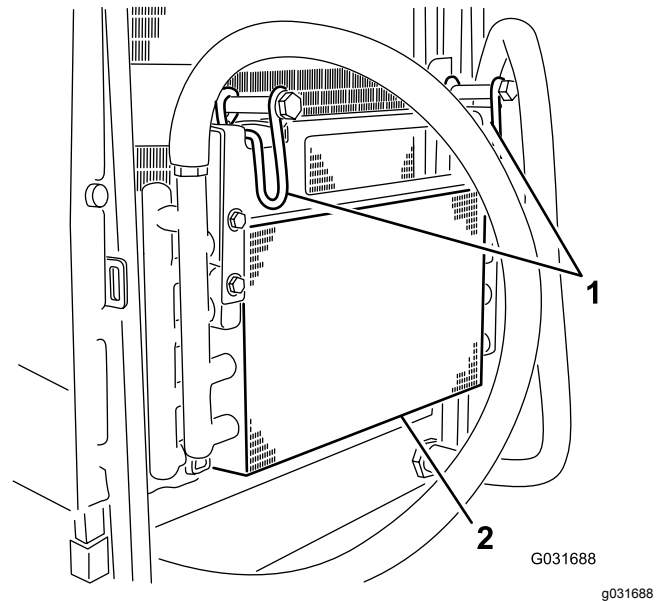

Figure 51
5. Pivot the latches inward to release the oil cooler (Figure 51).